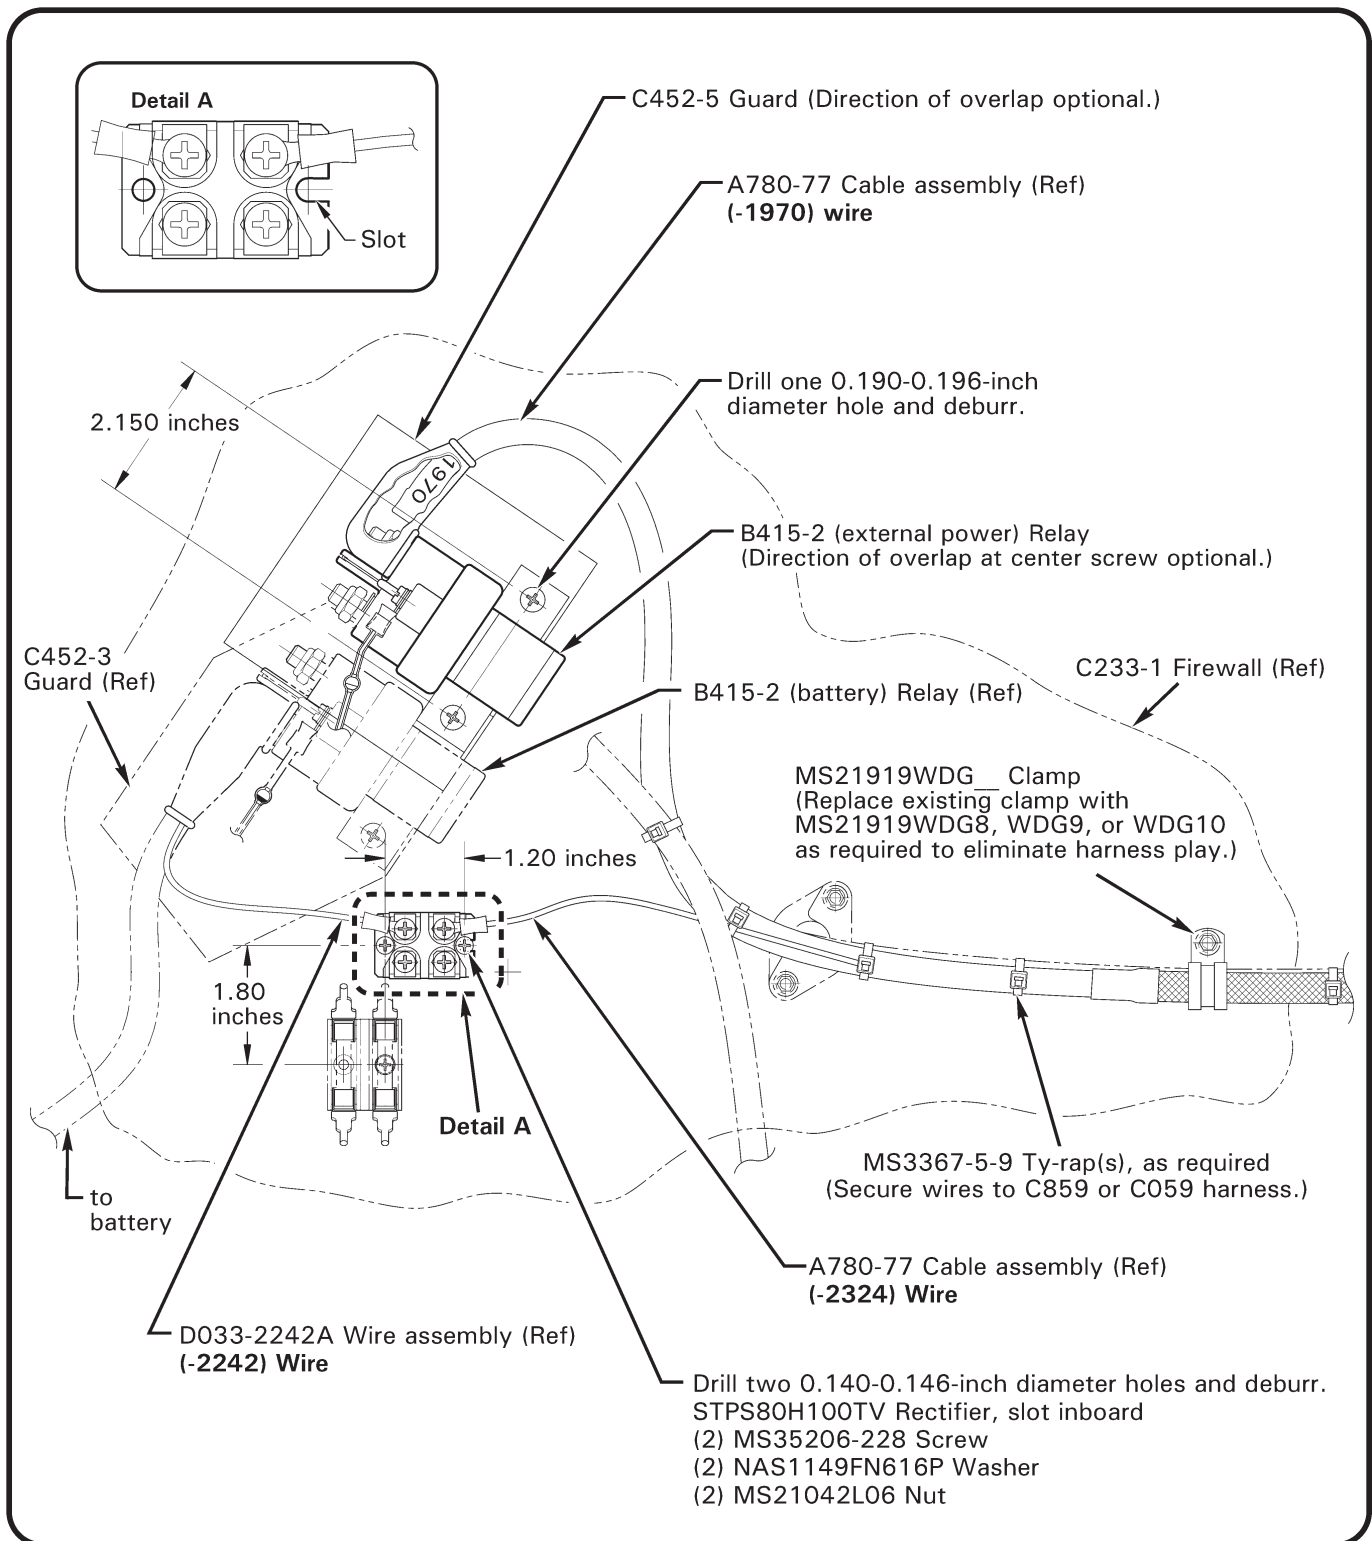

FIGURE 2
5. Refer to Figure 2. Lay out hole locations on vertical, stainless steel firewall for STPS80H100TV rectifier and B415-2 (external power) relay. Using cobalt steel bits with drill-stops, drill a series of pilot holes, then drill to final size: (1) 0.190-0.196 inch diameter hole (relay), and (2) 0.140-0.146 inch diameter holes (rectifier). Deburr holes and clean up debris.
16. Refer to Figure 2. Remove hardware and MS21919WDG clamp securing C859 or C059 harness to vertical firewall. Reinstall hardware securing C859 or C059 harness and A780-77 cable assembly's (-1970) wire to firewall with supplied MS21919WDG8, WDG9, or WDG10 clamp as required to eliminate harness play. Verify security.
19. Refer to Figure 2. Install screw and secure D033-2242A wire assembly's (-2242) small terminal to rectifier upper outboard terminal.